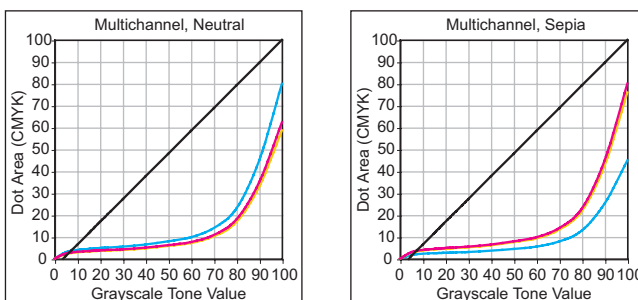

Fig. 2a & 2b: Gray balance curves for Neutral and Sepia color
These gray balances are very stable on press, have high contrast, and smooth tints in the highlight areas. For all these setups, the total area coverage is a maximum of 300 percent dot area. (The figures on pages 6 to 8 of this booklet were done using the curves of Fig. 2a.)
3. Go to Image > Adjustment > Curves, and make a curve similar to cyan of figure 2a. (Consider the Total Area Coverage when setting the highest value.)